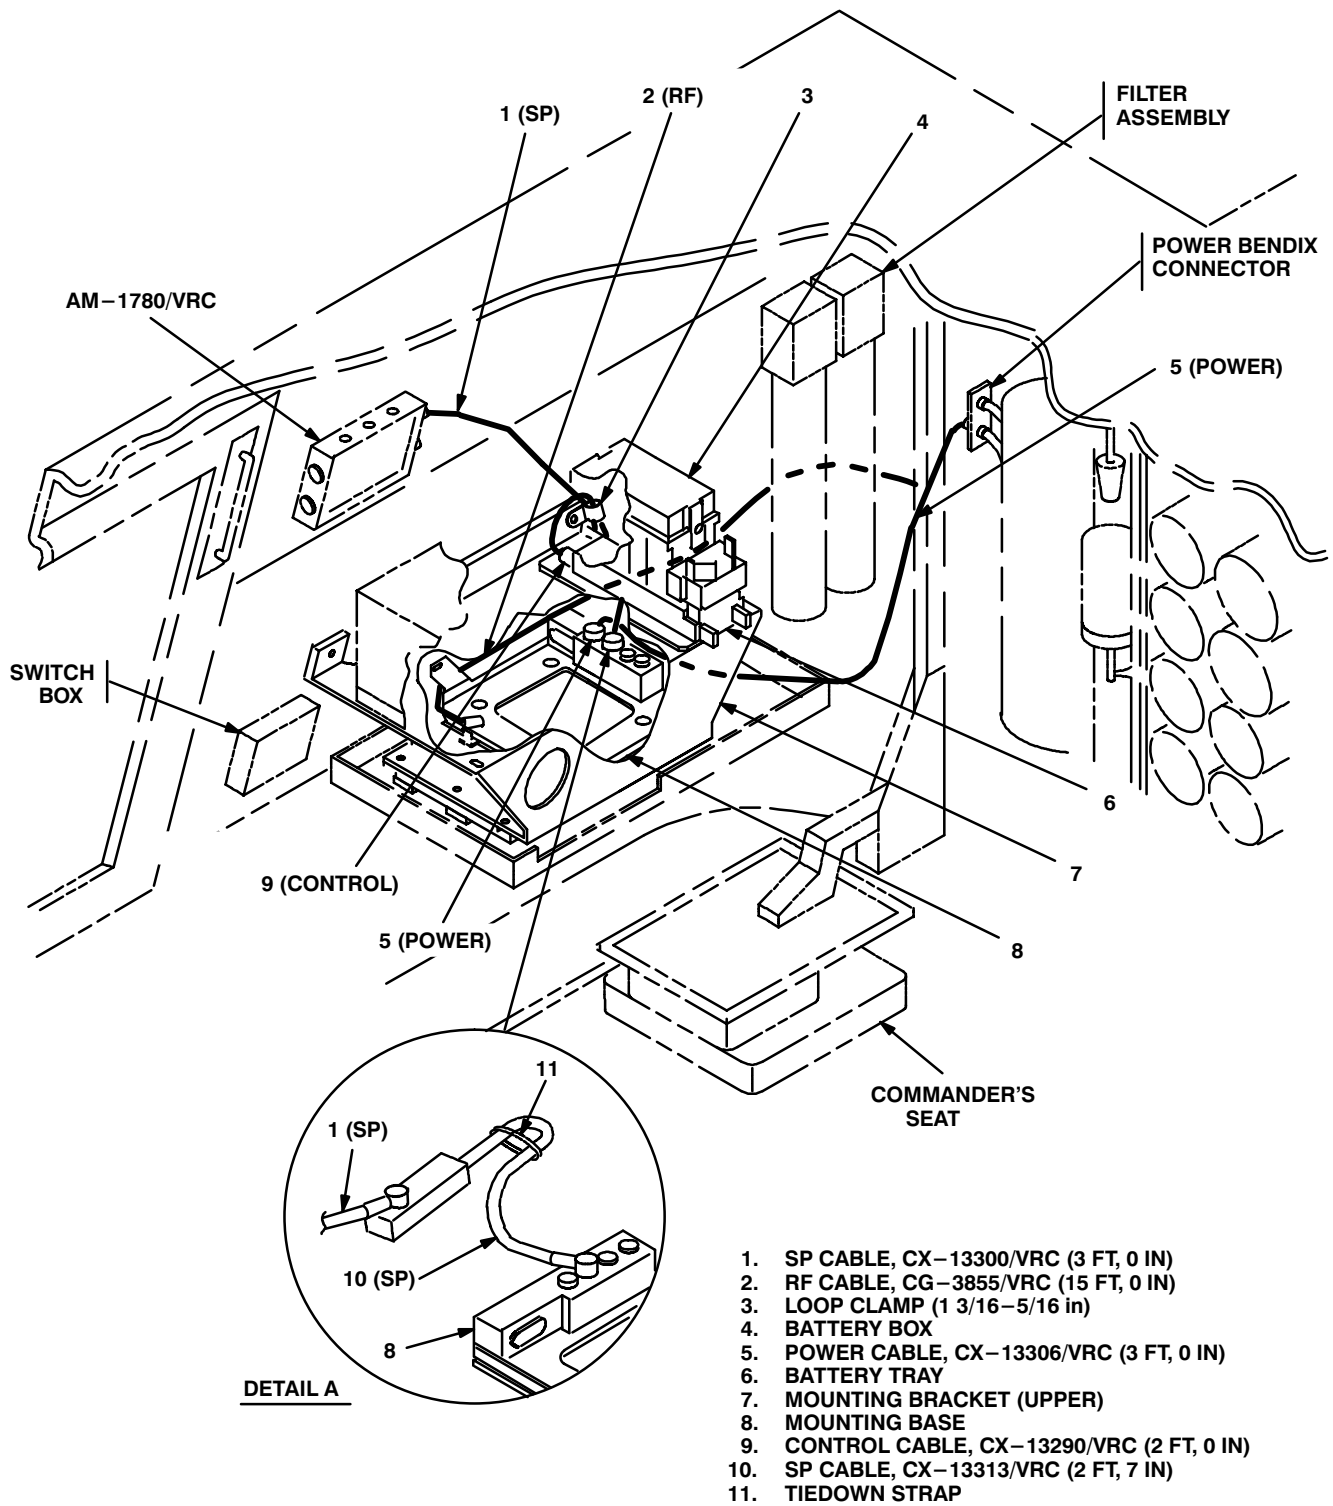

Figure 5-7 (2). Cable Installation: Power, SP and RF Cabling
a. RF cable (2) connector P1.	From inside cab, insert through cable hole in rear wall and antenna bracket (1); then connect and secure to antenna base (4) connector J1. See figure 5-7 (1).